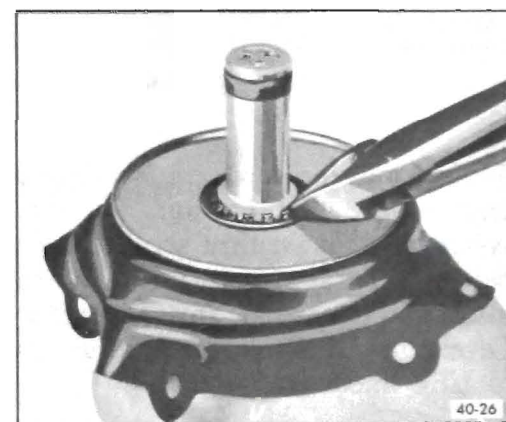

Figure 40-32 - Removing Diaphragm Retainer
1. Remove diaphragm retainer with diagonal pliers and discard retainer. See Figure 40-32.